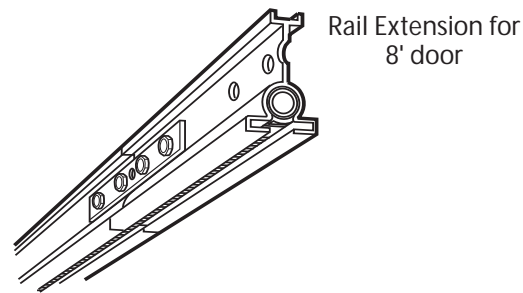

Figure 3 Rail Extension Kit
- B If door height is 8'-0", you need an Excelerator Rail Extension Kit. (Figure 3) (See Accessories Order Form, page 31/32).